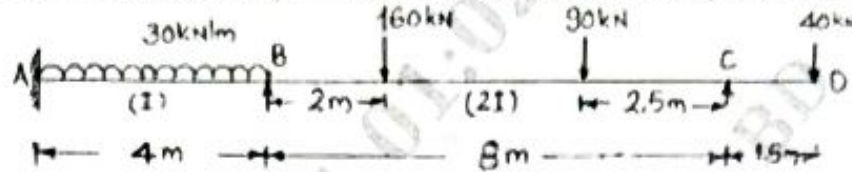

Fig.Q5
- 5 Analyze the continuous beam shown in Fig.Q5 by using Kani's method. The support C sinks by 20 mm. Take $E = 200 \text{ kN/mm}^2$, $I = 170 \times 10^6 \text{ mm}^4$. Draw BMD, SFD and EC.